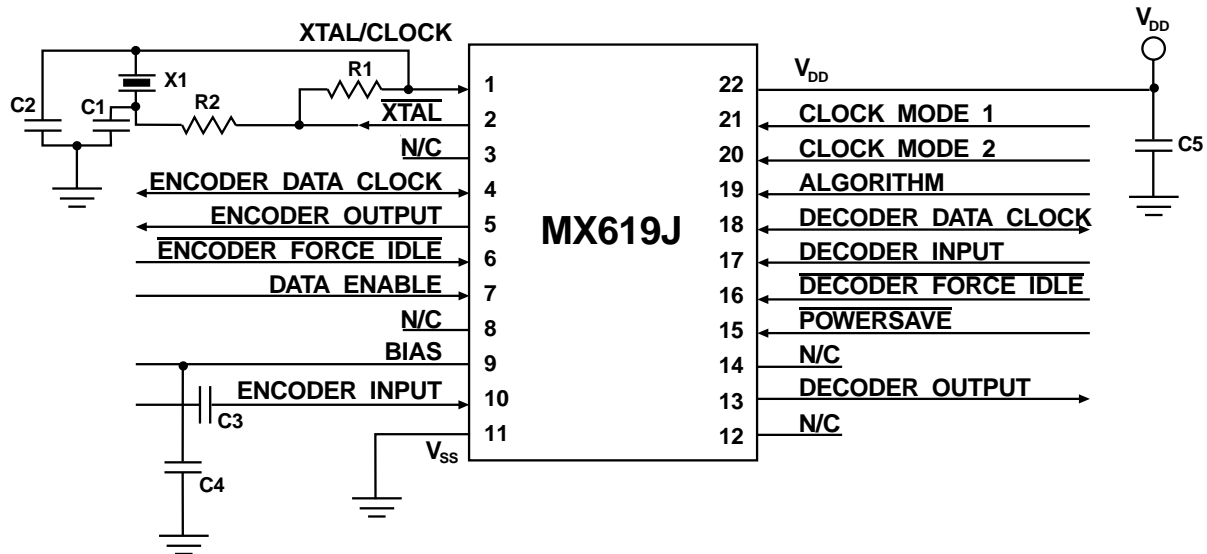

Figure 2: Recommended External Components for Typical Application
2. All external components (as recommended in Figure 2) should be kept close to the package.